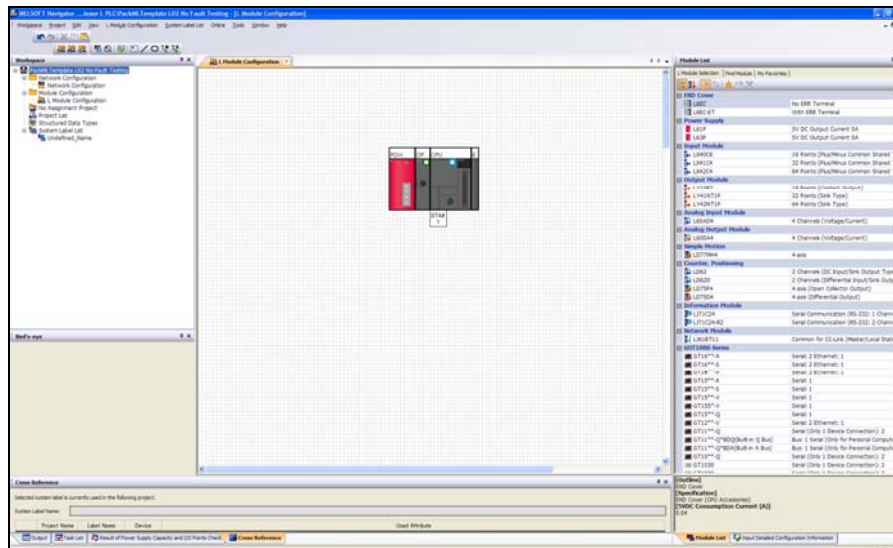

Figure 3 – L02 PLC System Configuration
- a. When the new Module Configuration workspace is open, one can select the L02CPU, L6ADP-R2 RS-232 Adaptor, and the L61P Power Supply to form the L02 PLC system as shown in Figure 3.